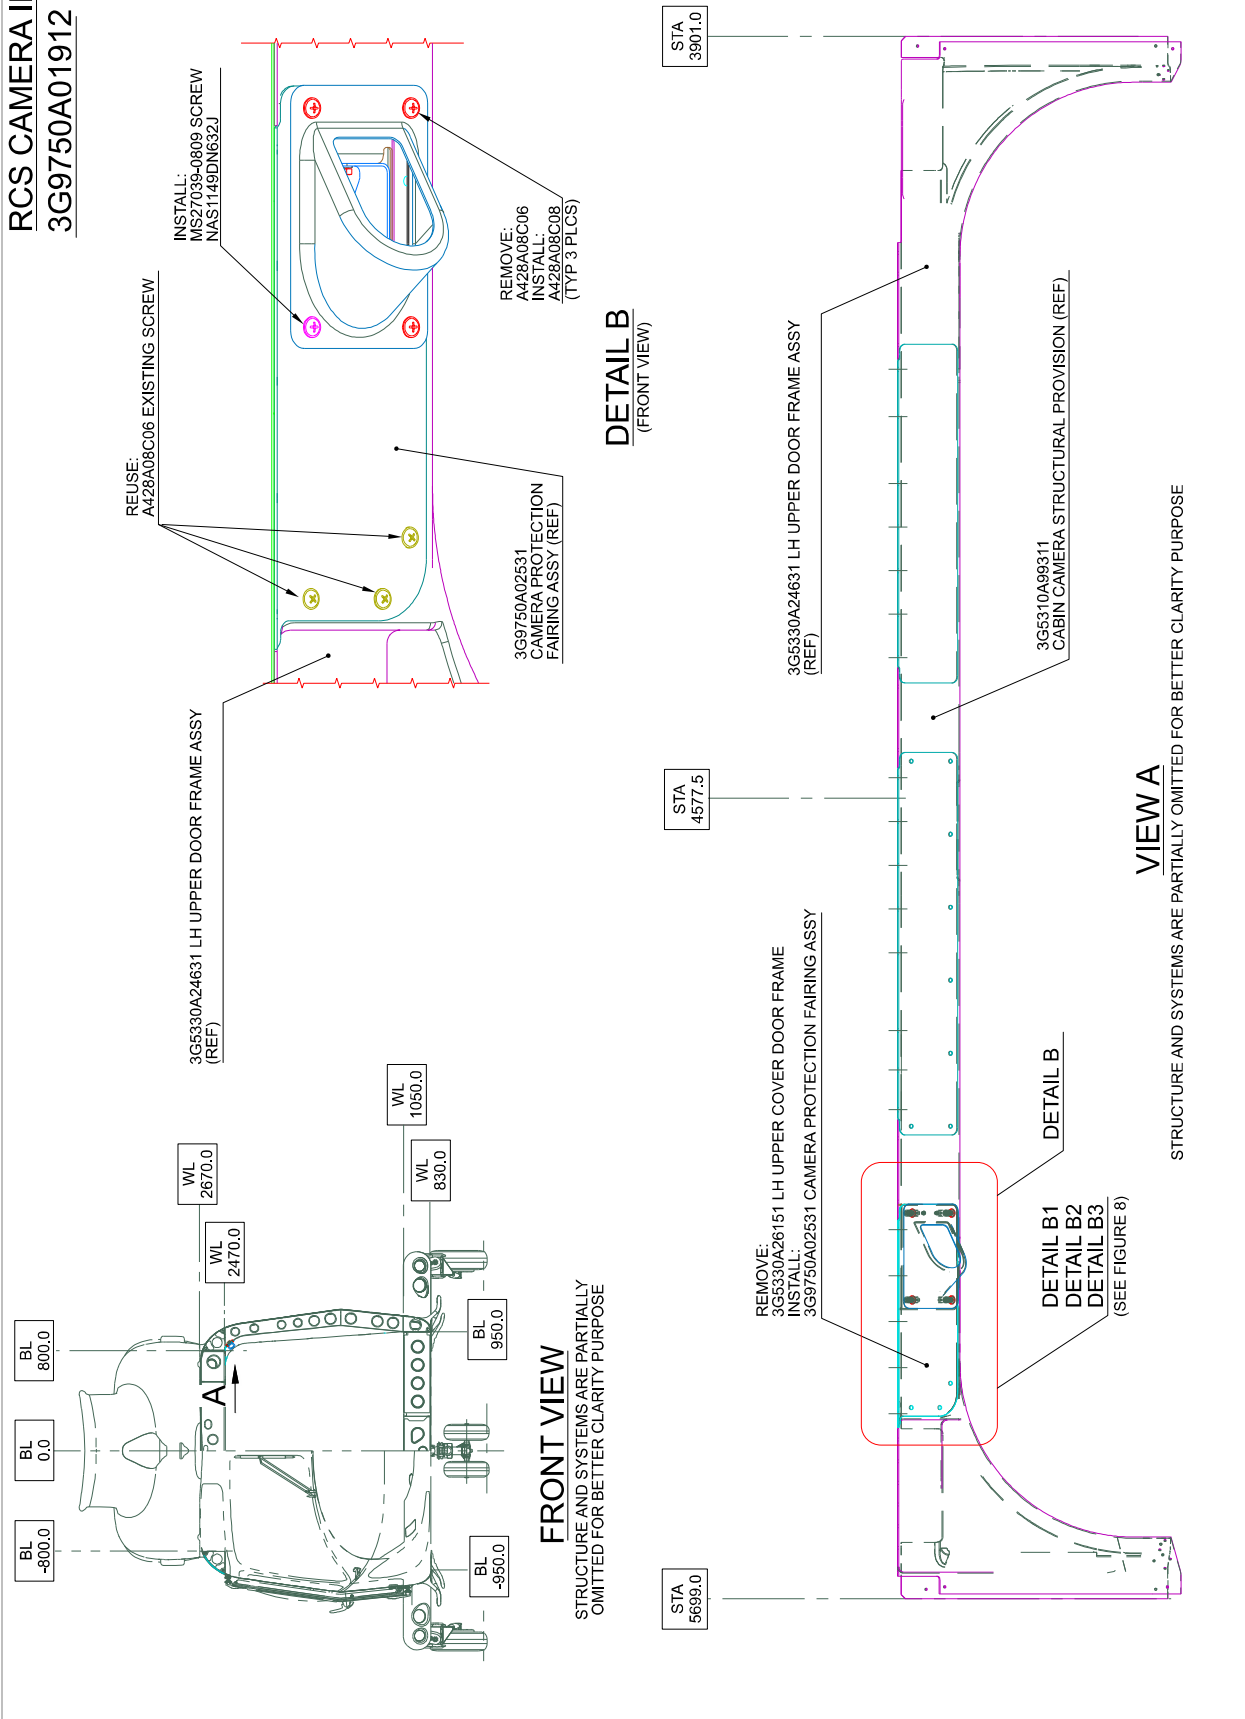
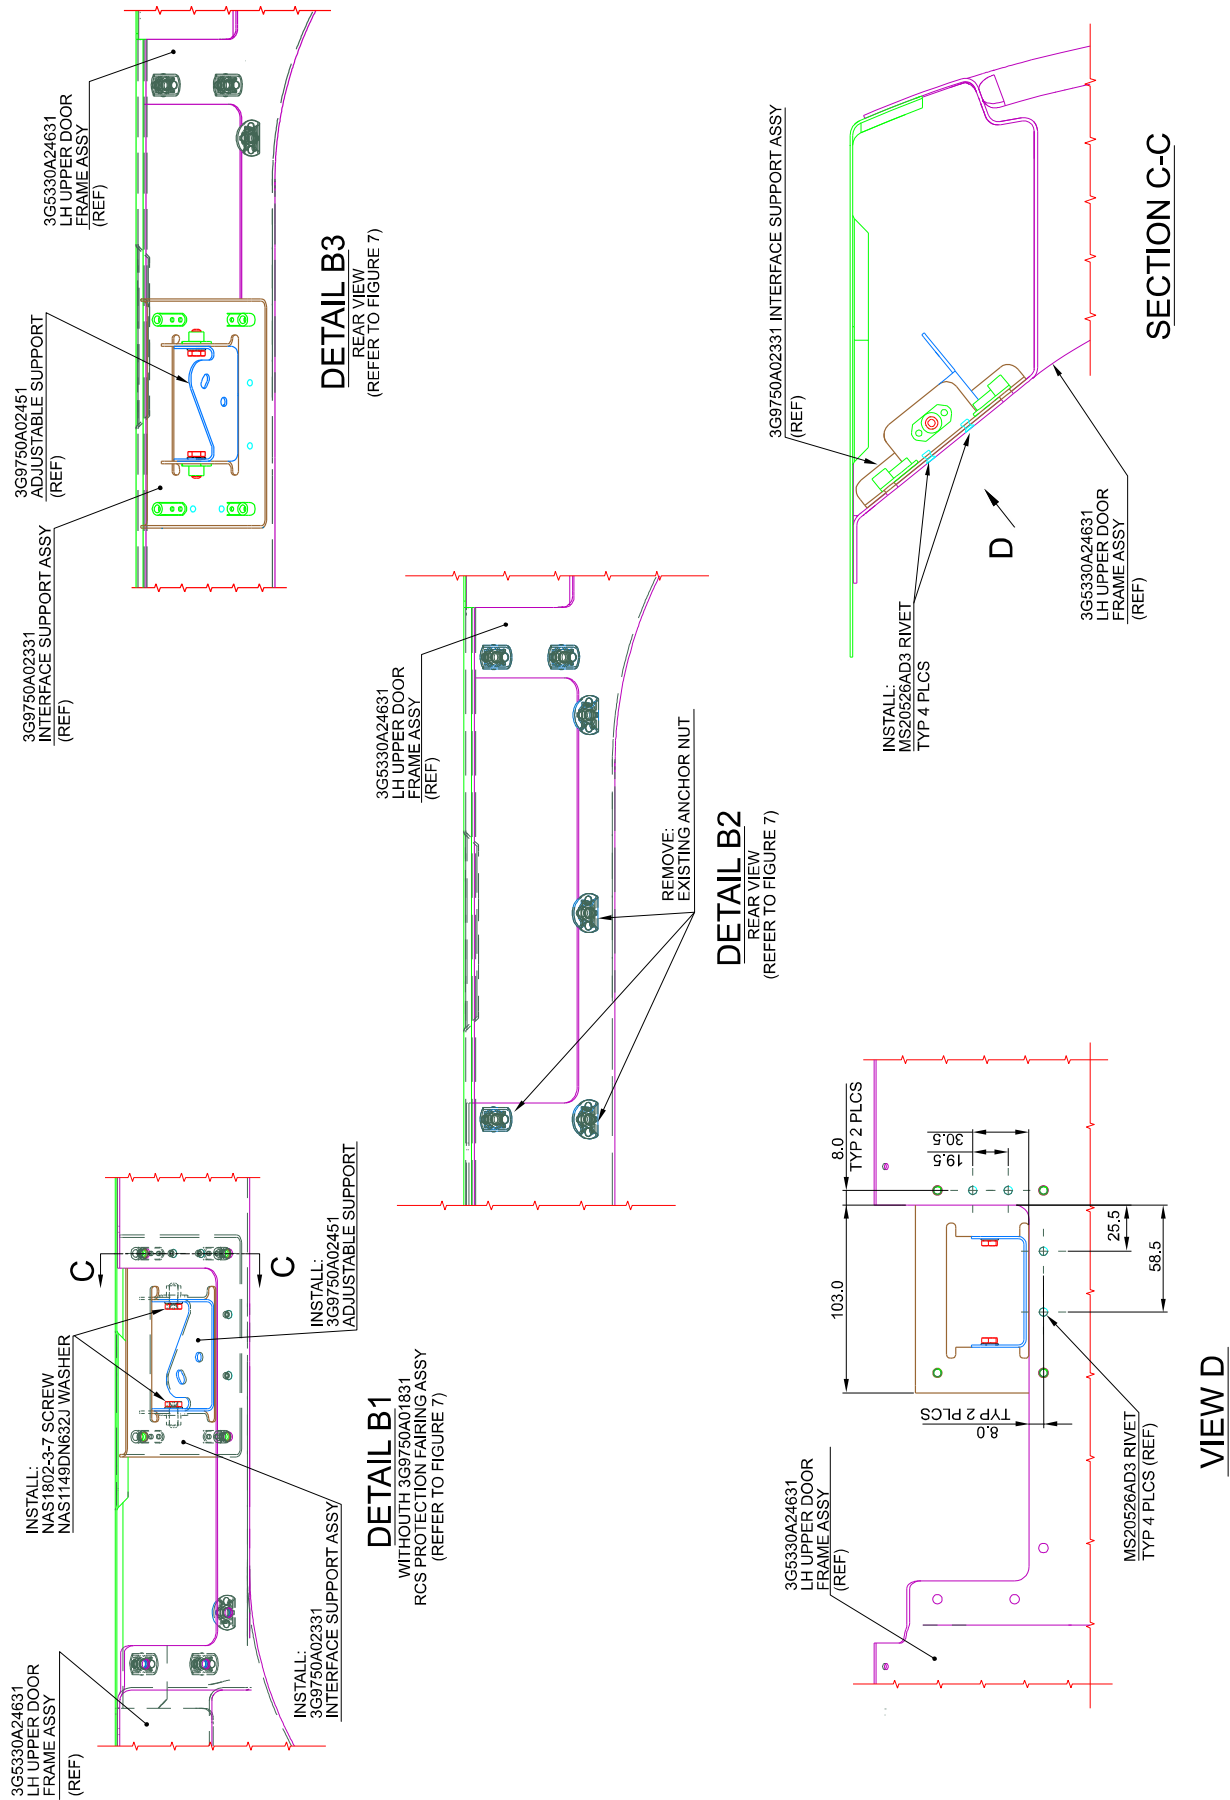

Figure 7
Figure 8
- 2.3 With reference to Figure 7 Detail B, remove and retain the camera protection fairing assy P/N 3G9750A02531 from the LH upper door frame assy and from the interface support assy P/N 3G9750A02331 and its relevant hardware.
- 2.4 With reference to Figure 7 View A and Figure 8 Detail B2, remove the 3 existing anchor nuts from the LH upper door frame assy P/N 3G5330A24631.
- 2.5 With reference to Figure 7 detail B, remove the existing 3 screws P/N A428A08C06 from the LH upper door frame assy P/N 3G5330A24631.
- 2.6 With reference to Figure 7 View A, remove the LH upper cover door frame assy P/N 3G5330A26151 and its relevant hardware. Retain the hardware for later reuse.
- 2.8 With reference to Figure 7 and Figure 8 Detail B1, install the camera protection fairing assy P/N 3G9750A02531 on the LH upper door frame assy and on the interface support assy P/N 3G9750A02331 by means of existing n°3 screws, n°3 screws P/NA428A08C08, n°1 screw P/N MS27039-0809 and n°1 washer P/N NAS1149DN632J. In accordance with DM39-A-20-00-00-00A-711A-A, tighten the n°7 screws to the standard torque value.